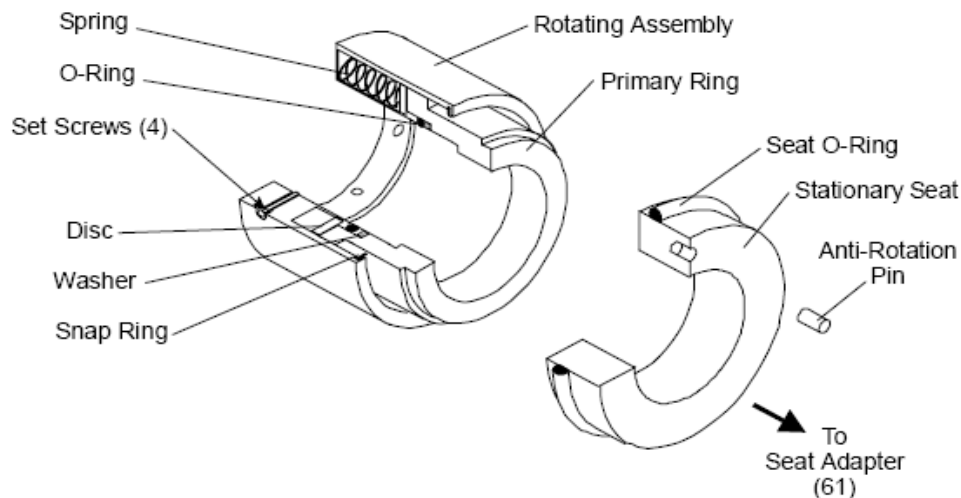

Figure 2 – Mechanical Seal (12) Details
1. Remove external tubing (30) from pump by loosening tube fittings (29).
2. Remove outboard bearing retainer bolts (8) and outboard bearing retainer (69) from outboard cover (21).
3. Remove outboard cover (21) by removing cap screws (6). Seal seat adapter (61) with seal stationary seal will come out with outboard cover (21).
4. Remove seal seat adapter (61) from outboard cover (21). Remove back up ring (35), if pump is 250 size, and O-ring (34) from seal seat adapter. Remove O-ring in ID of seal seat adapter. Remove back up ring (20), if pump is 250 size, and O-ring (3) from outboard cover (21).
5. Loosen set-screws holding the mechanical seal (12) on power rotor (10). See Figure 2 below. Slide mechanical seal (12) off power rotor. Remove shim (23) and retaining ring (22) from power rotor (10) shaft.
10. Disassemble power rotor as below see Figure 2 for mechanical seal details:
- a. With a flat blade screwdriver, carefully remove outer and inner Truarc retaining rings (15) located on both sides of bearing (14) from grooves of power rotor (10)
- b. Sealed ball bearing (14) is assembled to power rotor (10) with a light press fit. Ball bearing (14) may be removed by using a bearing puller or a vertical arbor press. When using press, two pieces of key stock are to be placed through openings of spacer (13) underneath ball bearing (49) on both sides of power rotor shaft. Key stock should be long enough to support power rotor (10) as it is placed in press. Press ram is to be positioned against power rotor (10) coupling end face. Gently press power rotor (10) through ball bearing (14). Ensure power rotor (10) does not fall to floor once ball bearing (14) is off of its diameter.
- c. Remove spacer (13) and seat adapter (61) with mechanical seal stationary seat from power rotor (10), Remove stationary seal seat and O-ring from inside of seal seat adapter and remove O-ring (34) and back-up ring (35), if pump is 250 size, from stationary seat (61) OD.
- d. Loosen the set-screws on mechanical seal (12). See Figure 2. Rotate seal and slide off shaft of power rotor (10).
11. Remove inboard cover (4) from case (1) by removing cap screws (6) or (63) if pump is a 187 or 200 size "K" mount type.
12. Remove O-ring (3) from inboard cover (4) and back up ring (20) if pump is 250 size.
13. If pump is a 250 size or a 187 or 200 size with a C –face mounting, remove shoulder bolt (40) from inboard cover (4).
14. Remove bushing (5) from inboard cover (4).
15. Remove housing (2) from case (1) through suction end and remove O-ring (3) and back up ring (2), if size 250.
1. Install O-ring (3) in groove in inboard cover (4). If pump is 250 size, install back-up ring (20) in onboard cover (4).
2. Install bushing (5) in inboard cover (4). If pump is 250 size or 187/200 C-face version, be sure to line up groove in bushing (5) with hole in inboard cover (4) and Install shoulder bolt (40) in inboard cover (4). Snug up shoulder bolt.
3. Assemble inboard cover (4) into case (1) using bolts (6) or (63) if pump is 187/200 size K-mount type. Be sure seal return drain (29) is facing vertically up. Torque bolts to value in torque table 3.
4. Install housing (2), O-ring end first, into suction side of case (1) until it butts up against stops on inboard cover (4). Idler bores in housing (2) must be installed approximately horizontal with respect to the centerline of the pump.
5. Assemble Power rotor (10) and mechanical seal (12) as follows. See Figure 2 mechanical seal detail:
- a. Install mechanical seal (12) rotating assembly on power rotor (10) shaft until it contacts rotor balance piston. Tighten set screws.
- b. Install O-ring (this O-ring comes with the seal) in groove on the ID of seal seat adapter (61) and install O-ring (34) in groove on OD of seal seat adapter (61) (If pump is an AE3D-250__, this O-ring comes with the seal. On any other pump, this O-ring is separate from the seal). If pump is 250 size, install back up ring (20) in groove on OD of seal seat adapter (61)
- c. Install mechanical seal (12) stationary seat in seat adapter (61) ensuring that anti-rotation pin is properly engaged. Wipe mechanical seal rotating and stationary faces with a clean, lint free cloth before assembling faces together.
- d. Install assembled seal seat adapter (61), with stationary seat, to power rotor shaft in contact with to mechanical seal rotating face.
- e. Install spacer (13) on power rotor (10) shaft behind seal seat adapter (61) and then install inner truarc ring (15) in groove in power rotor (10).